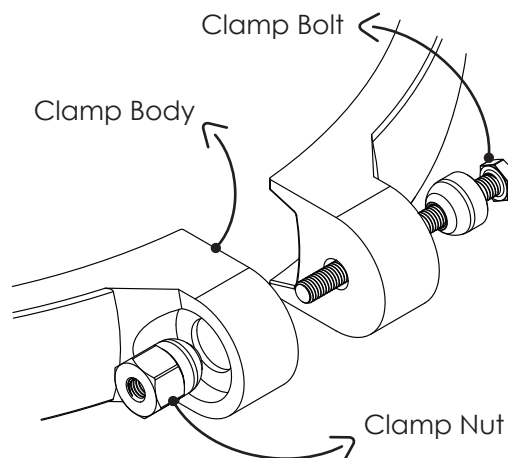

Figure 5
1. Use ONLY Original components; Non-Original Clamp components may fail in use and cause explosive component separation. Verify that Upper and Lower Filter Bodies are properly secured with the Filter Body Clamp. Never rely on hand tightening the Clamp Nut to the Clamp Bolt. Using a $\frac{3}{4}$ " socket on a torque wrench, torque Clamp Nut to Clamp Bolt to 17Nm (150 inch-lbs). (See Fig 5)